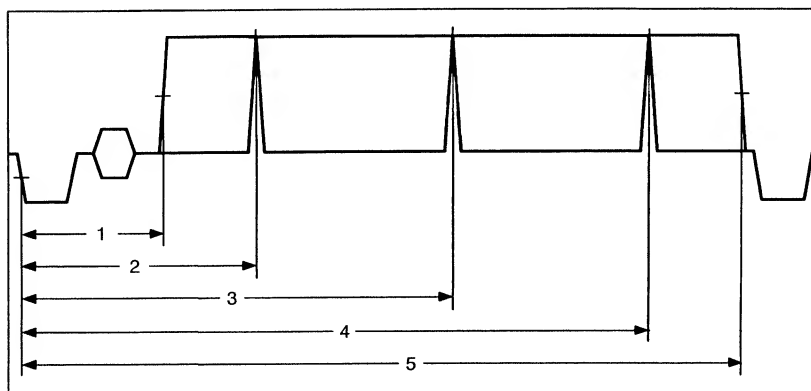

Fig. 3 Center Cross, Timing
– Horizontal direction, figure 3
Position of center cross, fig. 3, 4, 5